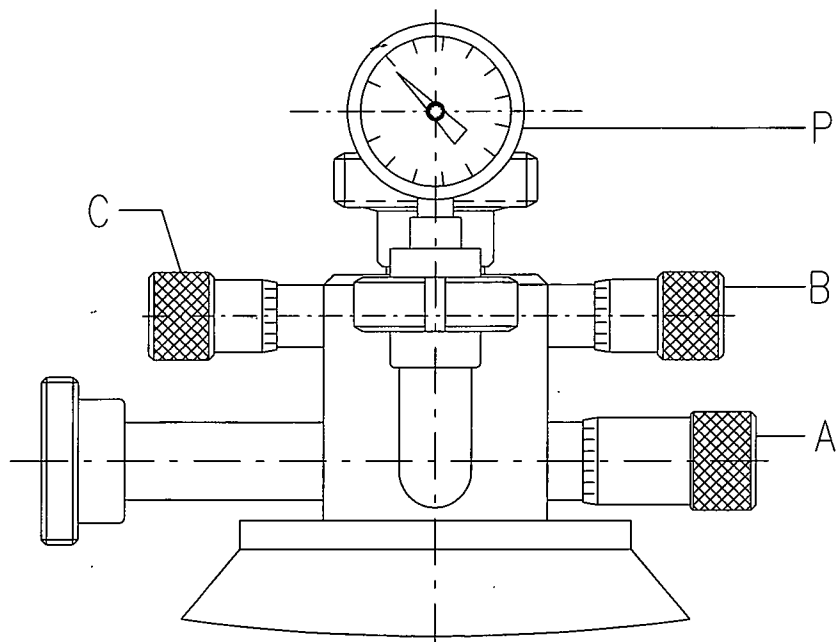

Figure 8.1
It's important to avoid air mixing with liquid, so it's necessary to immerse the centripetal pump into the rotating liquid and to have a counterpressure in outlet pipes. This is obtained by acting on the regulating valves (A, B, C in figure 8.1).
Valve (A in figure 8.1) regulates the outlet pressure of skimmed milk (the manometer P, shows the counter pressure at the outlet of the skim centripetal pump), while valve (B) permit to adjust the flow rate and pressure of the cream. To regulate the fat content of the milk (standardization), a third valve (C) has been applied in the internal channel between the cream outlet and the milk outlet. By opening this valve, some of the separated cream can be added to the skimmed milk before it leaves the separator.